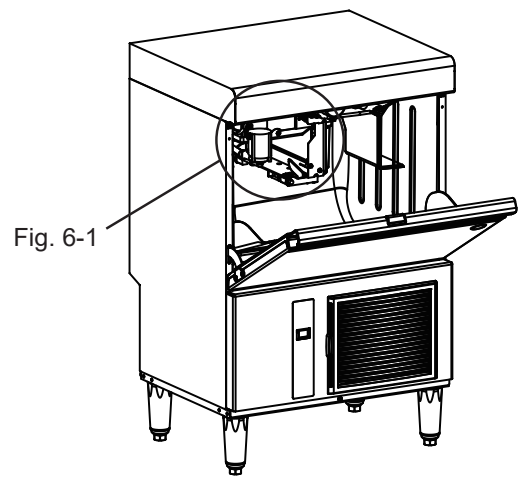

Fig. 6
- 5) Remove the ice guide from the unit frame. See Figs. 6 and 6-1. (IM-50BAA-Q only)
- 4) Replace the ice guide. See Figs. 6, 6-1 and 6-2. (IM-50BAA-Q only)